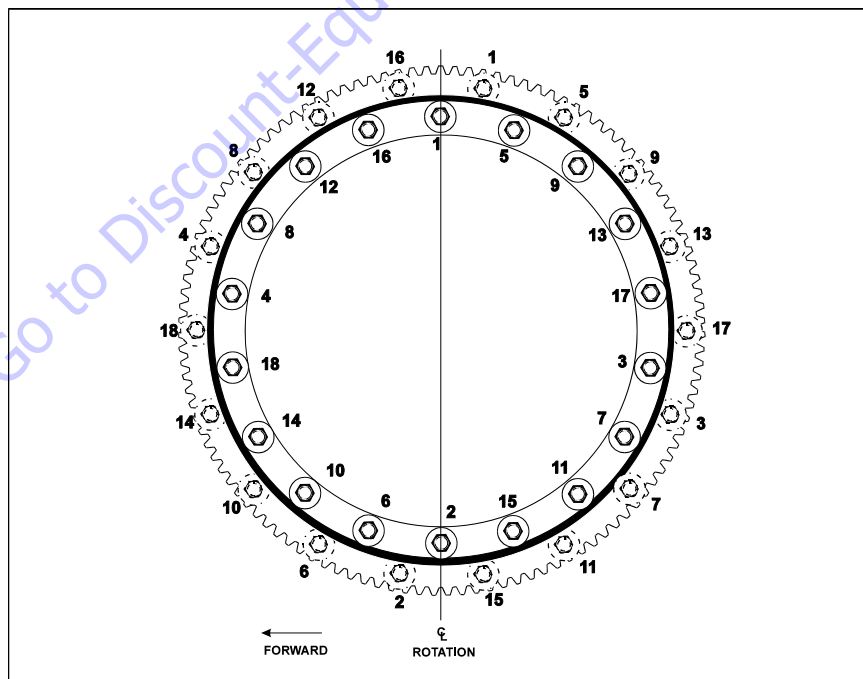

Figure 6-5. Swing Bearing Torque Sequence
- c. Refer to the Torque Sequence diagram as shown in Figure 6-5., Swing Bearing Torque Sequence. Spray a light coat of Safety Solvent 13 on the new bearing bolts. Then apply a light coating of Loctite #271 to the new bearing bolts, and install the bolts and washers through the frame and outer race of the bearing. Tighten the bolts to an initial torque of 240 FT. LBS. (326 Nm) w/Loctite.
- h. Following the Torque Sequence diagram shown in Figure 6-5., Swing Bearing Torque Sequence, tighten the bolts to a torque of 240 ft. lbs. (326 Nm) w/Loctite.